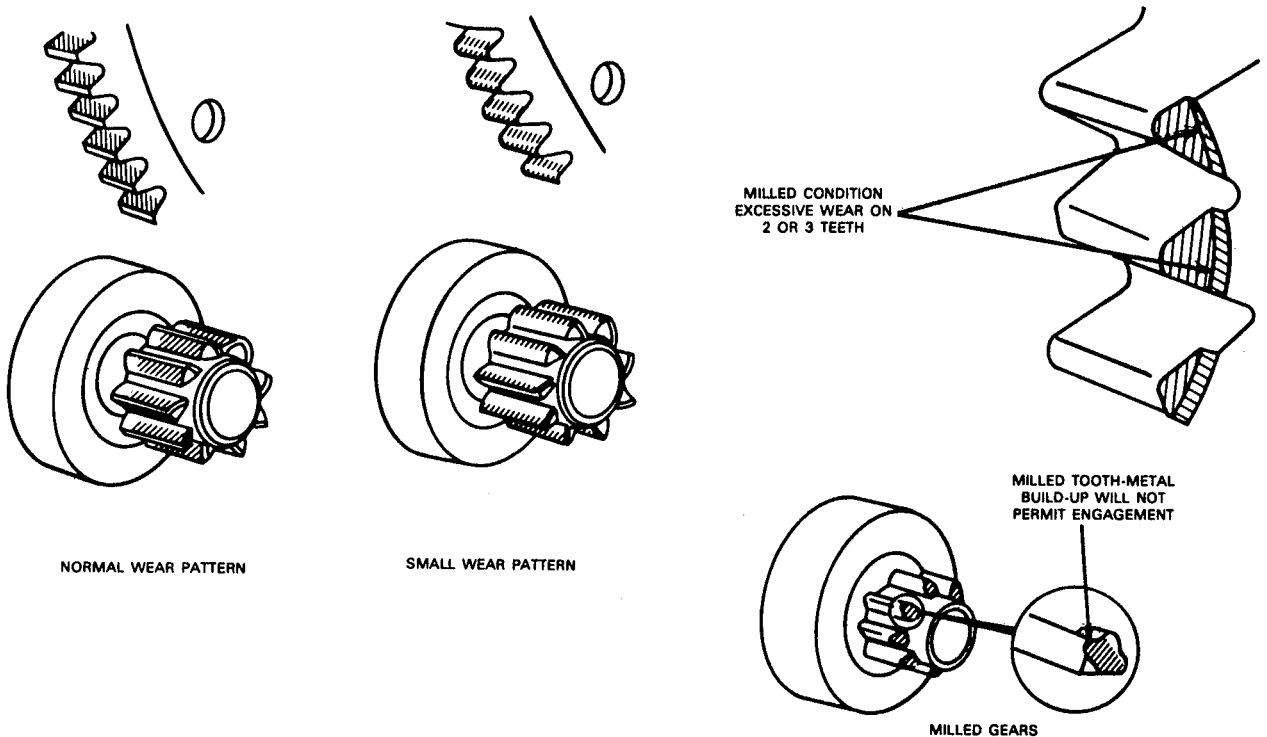

FIG. 11 Pinion and Ring Gear Wear Patterns
8. Examine the wear pattern on the starter drive teeth. The pinion teeth must penetrate to a depth greater than 1/2 the ring gear tooth depth (Fig. 11), to eliminate premature ring gear and starter drive failure.
9. Replace starter drives and ring gears with milled, pitted or broken teeth or evidence of inadequate engagement (Fig. 11).